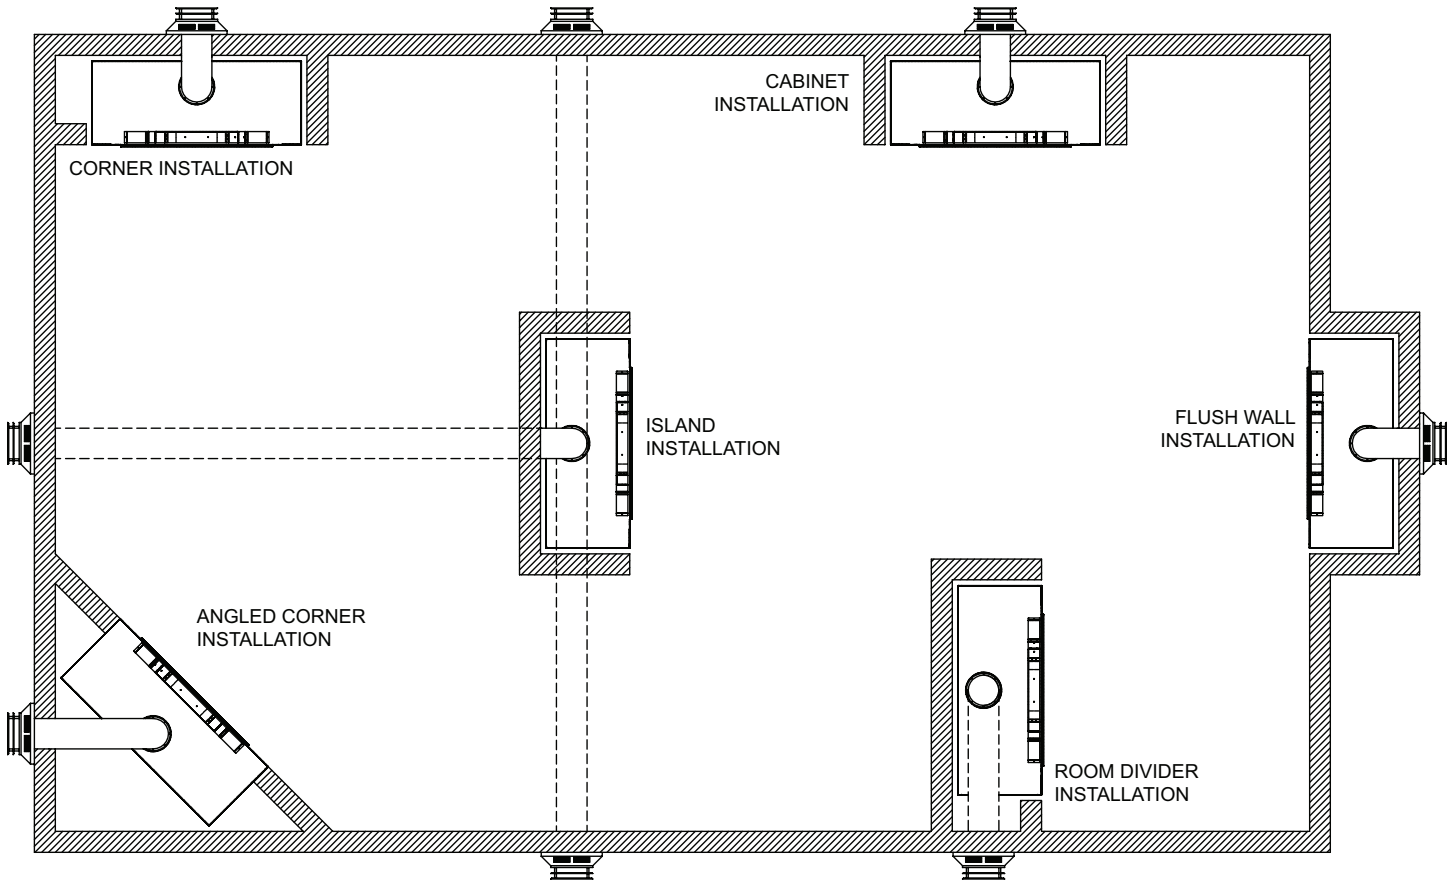

Figure 6
**Note:** Island and Room Divider installation is possible as long as the horizontal portion of the vent system does not exceed 20 feet (609.6cm) with a minimum vertical run of 8 feet (243.8cm). See details in Venting Section. See Figure 6.